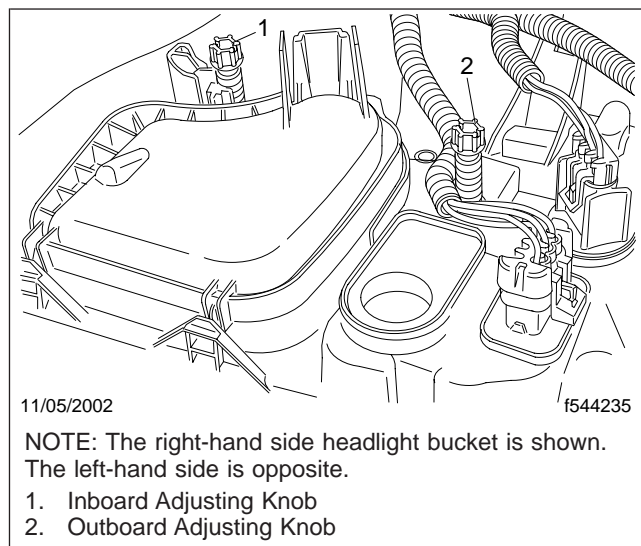

Fig. 15.4, Headlight Adjusting Knobs
1. Lift the flap over the rear end of the headlight bucket to expose the two plastic adjusting knobs on each headlight. See Fig. 15.4.